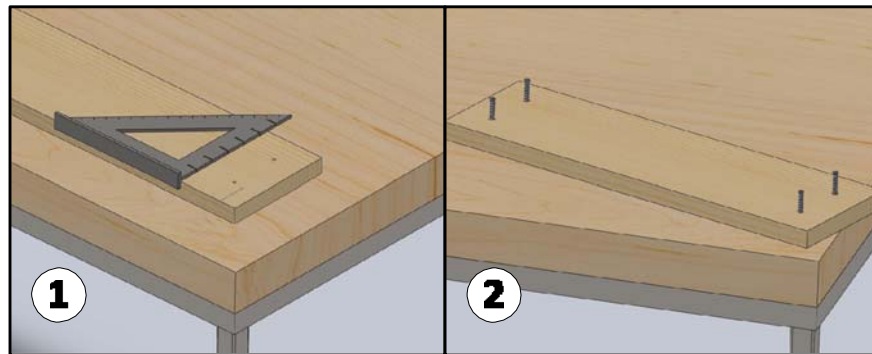

Figure 9: (1) Marking where the edge of the gusset sits. (2) Starting the screws in the back piece.
- A. Draw a small line on the gusset side (the side with out the countersink) of the back piece 1" away from the end as shown in Figure 9(1). The outside gusset edge will line up with this line.